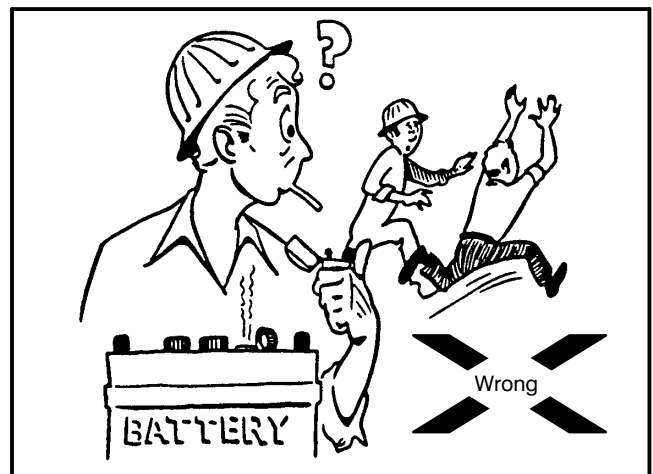

Figure 1–101
2. Clean all dirt from the neck of the fuel cylinder and top of the valve. Refer to Figure 1–99.